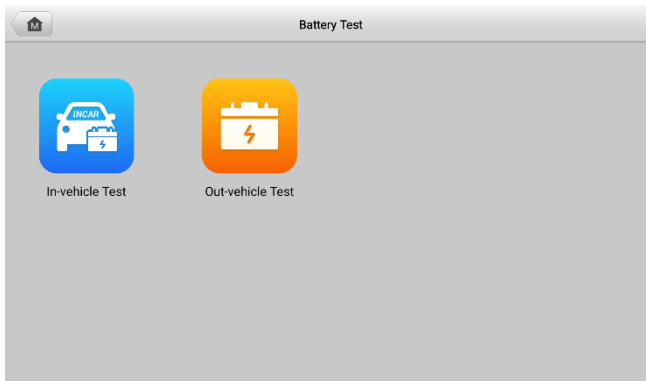

Figure 8-3 Battery Test Screen
1. Tap the **Battery Test** application on the MaxiCOM Job Menu. The Battery Test screen displays (see Figure 8-3 Battery Test Screen).